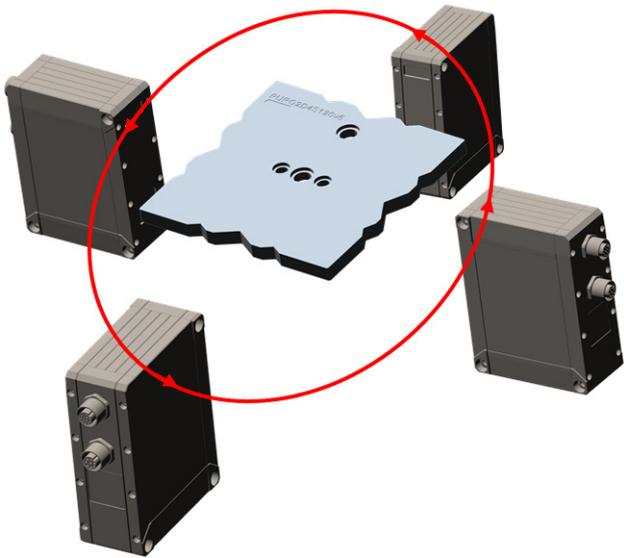

Fig. 13 Sockets/laser on the top of the sensor, Label of the registration object on top side
- Mount the sensors counterclockwise. In the finished setup, the orientation of the registration object must match the sensor arrangement, see Fig. 13.